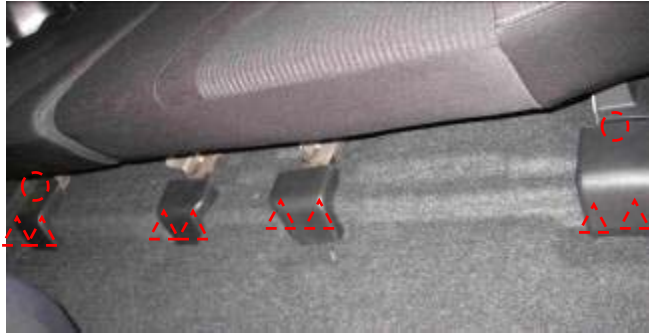

Figure 1-25
- b) Using a trim panel remover, remove 4 plastic bracket covers on the front mounting brackets of the rear seats (Figure 1-25).